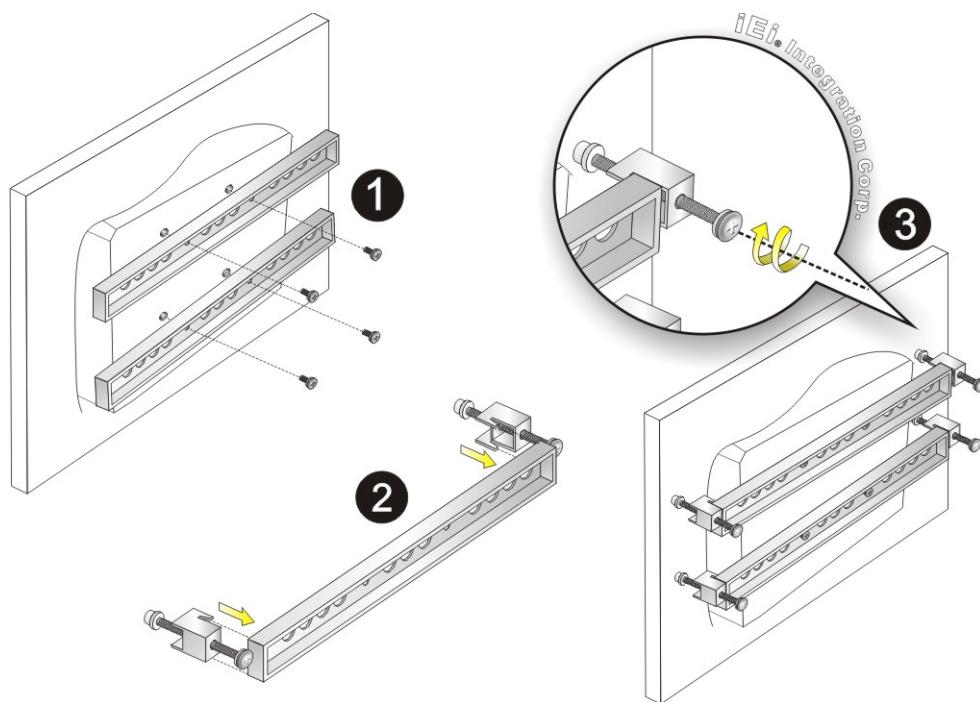

Figure 4-12: Rack Bracket Mounting
Step 3: Secure the two rack mounting brackets to the rear of the panel PC by inserting the four retention screws into the VESA mounting holes (**Figure 4-12 ①**).
Step 4: Insert the rack mounting clamps into the pre-formed holes along the two edges of the rack mounting brackets (**Figure 4-12 ②**). There are a total of 4 rack mounting clamps for the AFL2-12A-HM65.
Step 5: Tighten the screws that pass through the rack mounting clamps until the plastic caps at the front of all the screws are firmly secured to the panel (**Figure 4-12 ③**).